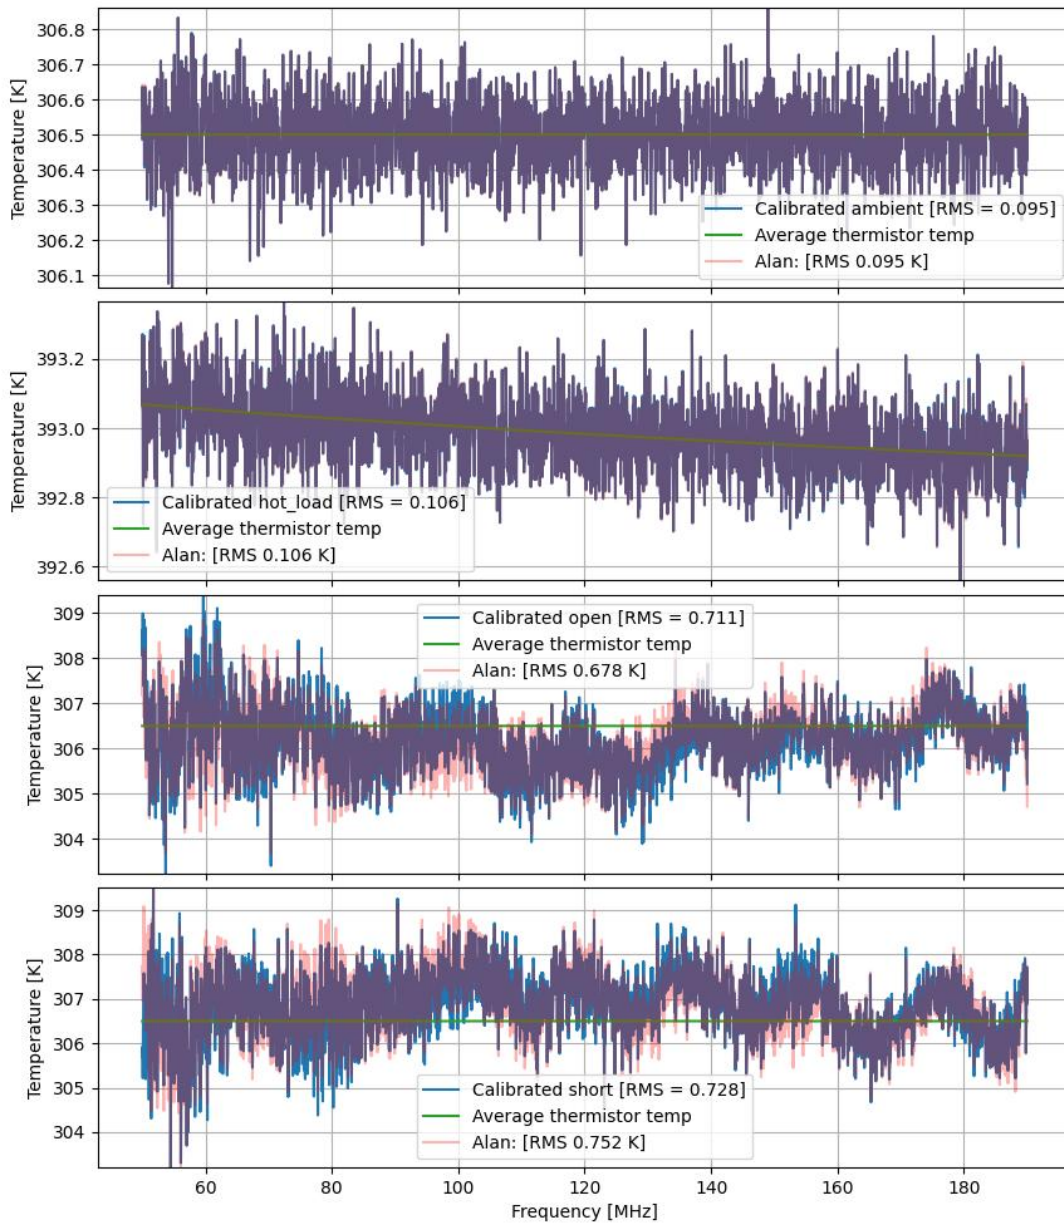

Figure 8: Comparison of calibrated spectra obtained from Alan's pipeline and edges-cal.
- Figure 8 shows the comparison of calibrated spectra